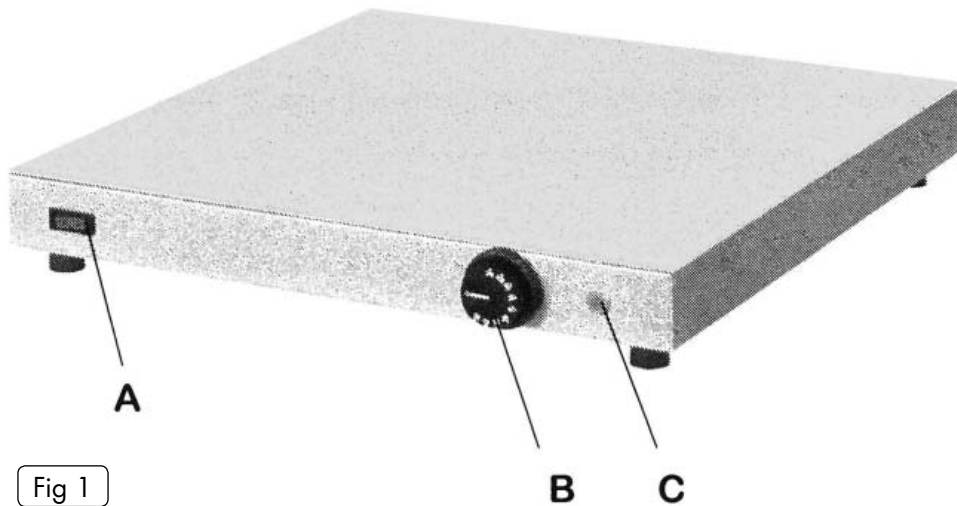

Fig 1
1. Put the plug into the power socket and turn on the main switch (A fig.1).
2. Turn the thermostat (B fig.1) until the temperature setting required is reached. The heating light (C fig.1) will come on and will go off when the set temperature is reached.
1. Put the thermostat (B fig.1) into position «0», and check that the thermostat light (C fig.1) is extinguished.
2. Turn off the main switch (A fig.1).